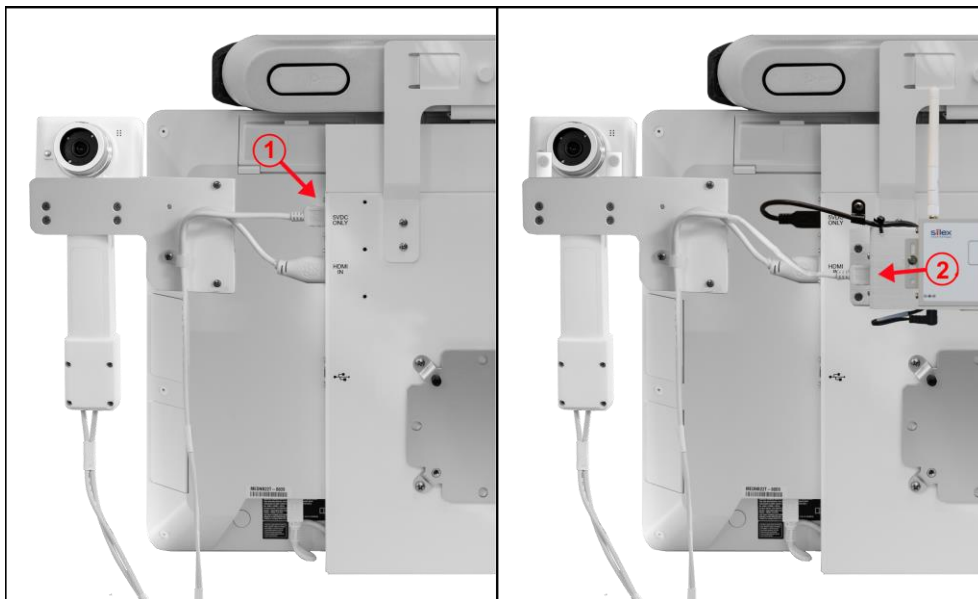

Figure 29. Horus Scope Cabling with Silex wireless Bridge Installed
2. When the optional Silex wireless bridge is installed on the system, the “5VDC ONLY” USB port is used to power the Silex bridge, so it is necessary to re-route the USB power cable attached to the Horus Scope 3 to the USB female port on the side of the Silex bridge mounting bracket as shown in figure 29. above.